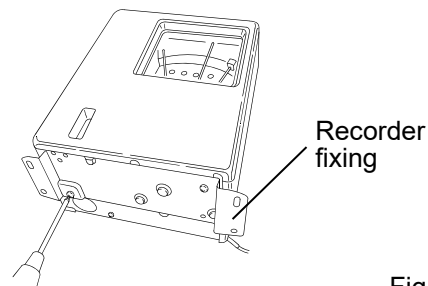

Fig. 1
1. Attach the recorder fixing to the temperature recorder (MTR-0621LH) by referring to the instruction manual enclosed with the temperature recorder. [Fig. 1]
1. Remove a cap for the fixing screw on the panel cover for the space for a temperature recorder. Remove the fixing screw and open the panel cover. Remove the panel cover by pushing the shaft on both sides outward. [Fig. 1]